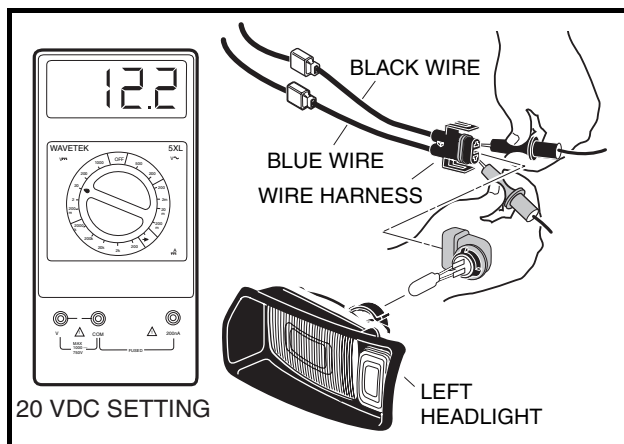

Figure 11-40 Headlight Socket Voltage Test
- 2.2. Disconnect the wire harness from the headlight (**Figure 11-40, Page 11-39**).